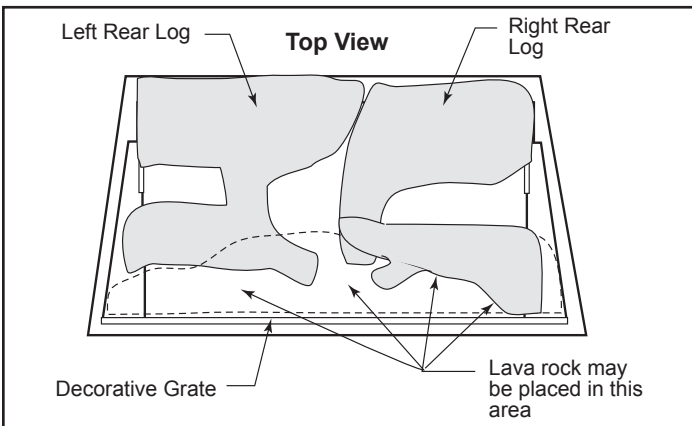

Figure 19 - Lava rock placement.
5. Loosely sprinkle the lava rocks directly on top of the burner just behind decorative grate. (Figure 19) Use the lava rock to cover brackets on the burner. Do not place lava rocks toward back of burner. The lava rock is shipped inside the bag assembly.